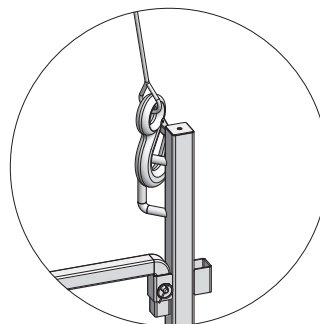

Fig. 48.3
A maximum of three stacking racks may be used to stack panels one on top of the other for storage purposes (Fig. 48.3).
- A 4-rope crane sling must always be used when transporting using a crane. The crane sling must be attached to the crane eyes (Fig. 48.3).